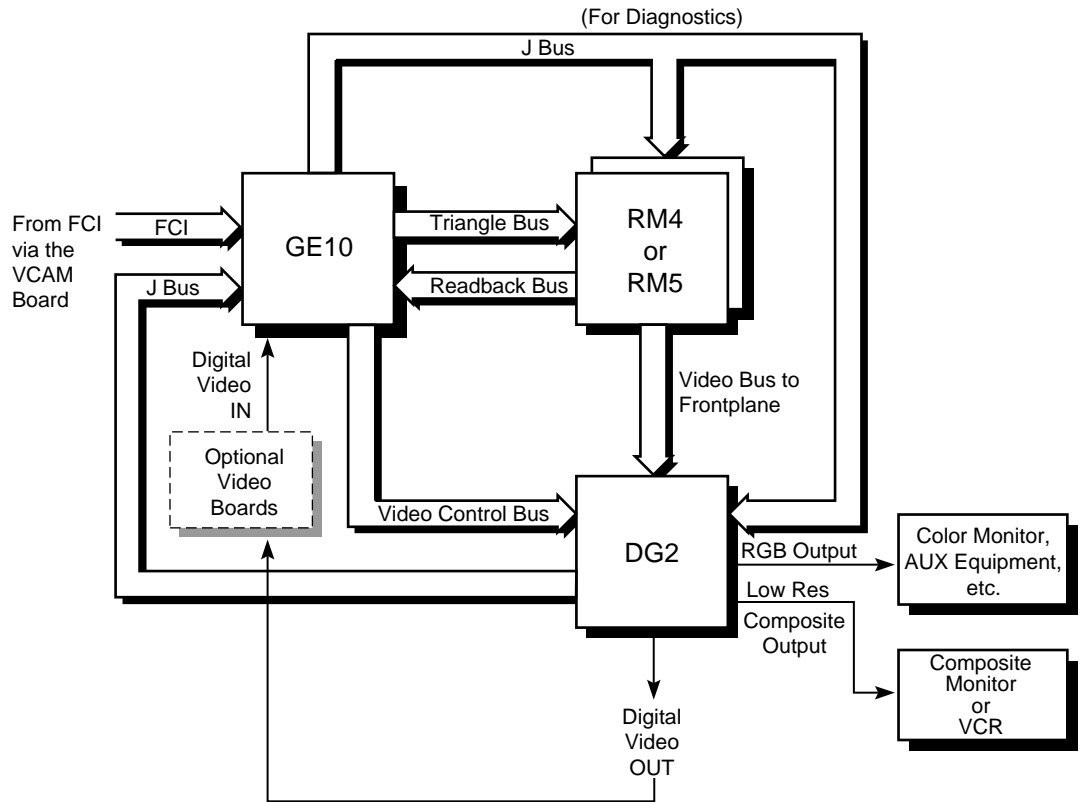

Figure 1-3 RE² Graphics Subsystem Functional Block Diagram
The RM4 board communicates with the DG2 through the (DI) video bus. See Figure 1-3 for an overall block diagram of the RealityEngine² and VTX graphics board sets.